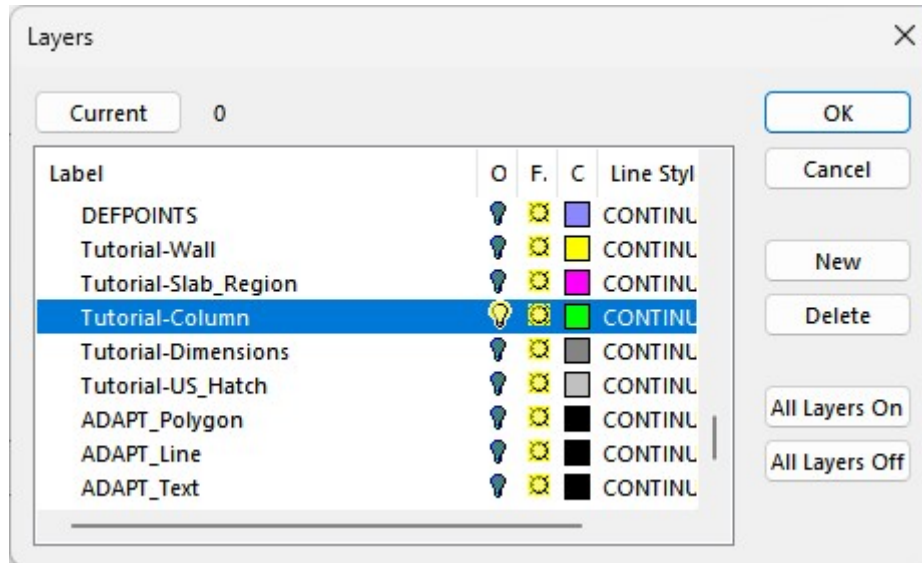

Figure 2.6-7 - Layers Dialog Box
- Use ribbon item **Home | Display | Layer Settings**, to open the **Layers** dialog box. Click on the button **All Layers Off**. This will turn off all the layers in the drawing. Click on the light bulb icon in the **On/Off** column for the layer representing the structural columns (**Figure 2.6-7**) to turn on only the objects in this layer while the display of other objects remain turned off.